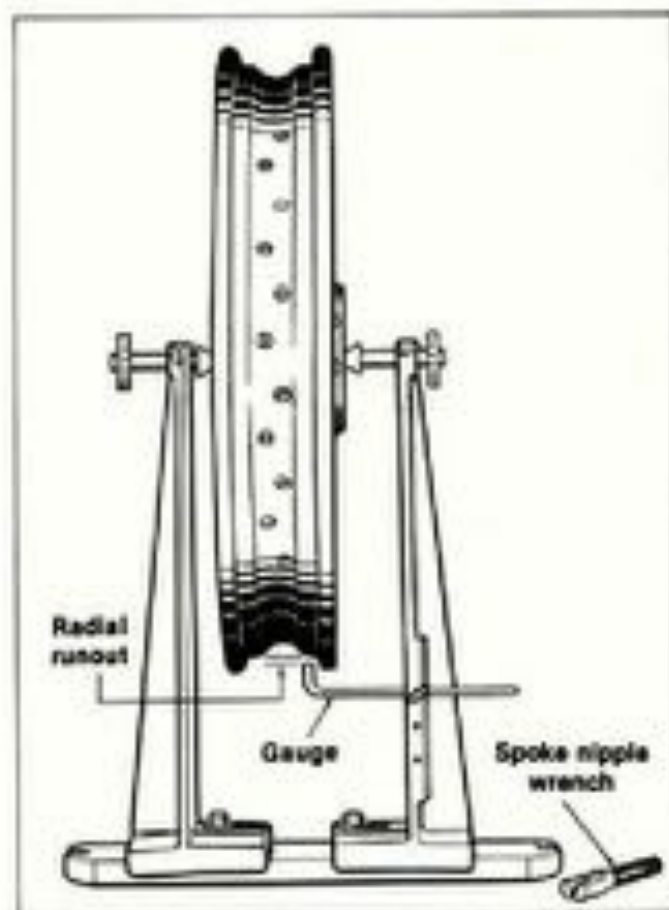

Figure 2-29. Truing Rim Radially
5. See Figure 2-29. After rim has been centered sideways it must be checked and trued radially. Adjust truing stand gauge to the rim's tire bead seat as shown. The rim should be trued within 1/32 in.